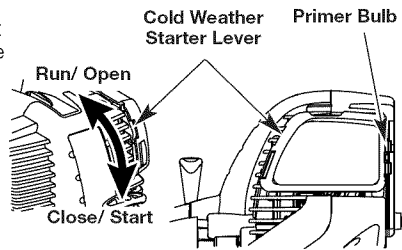

Fig. 10
IF COLD... For cold weather conditions (below 40°F), flip the Cold Weather Start Lever (Fig. 10) down to the start/closed position and continue to step 3. **DO NOT** flip this lever down if the temperature is above 40°F.
3. Fully press and release the primer bulb 10 times, slowly. Some amount of fuel should be visible in the primer bulb (Fig. 10). If fuel can not be seen in the bulb, press and release the bulb until fuel is visible.